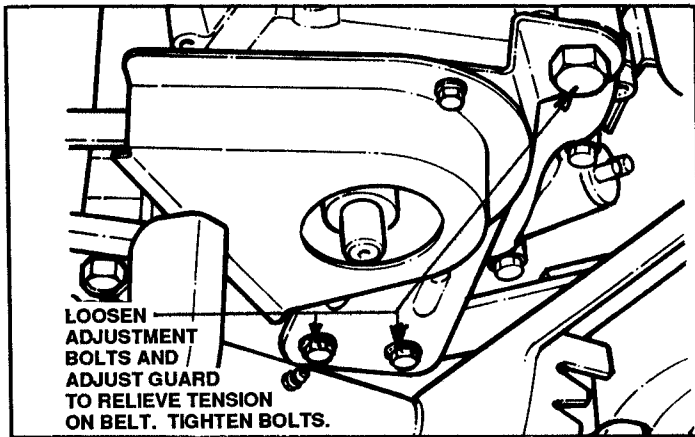

FIGURE 9
- (a) Loosen the drive pulley guard retainer bolts. Adjust the guard to relieve any tension on the drive belt. See Figure 9.